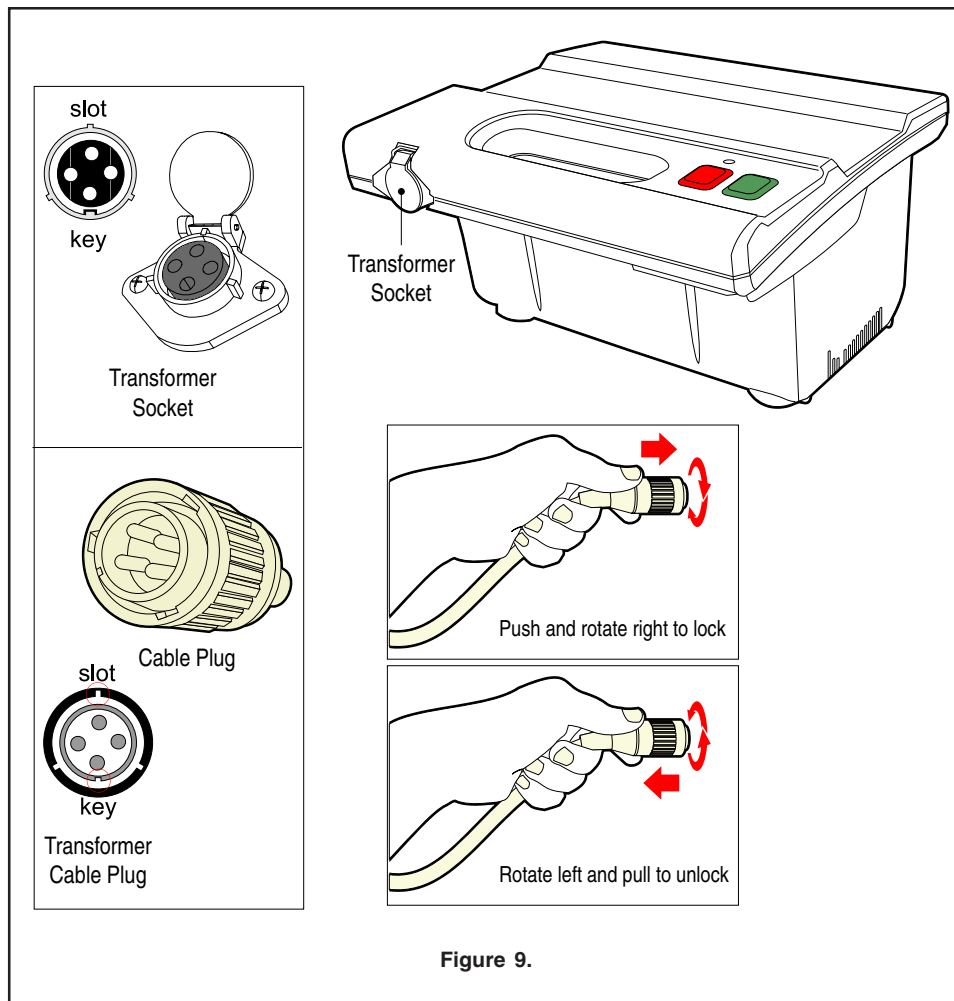

Figure 9.
1. Prepare the plug with the key and three outside slots as shown in Figure 9.
4. Once the plug is in, rotate the plug to the right to lock it into place as shown in Figure 9.